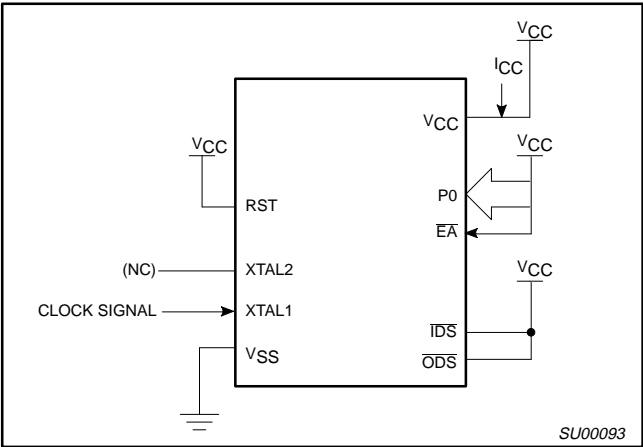

Figure 21. I_{CC} Test Condition, Active Mode
- See Figures 21 through 24 for I_{CC} test conditions.